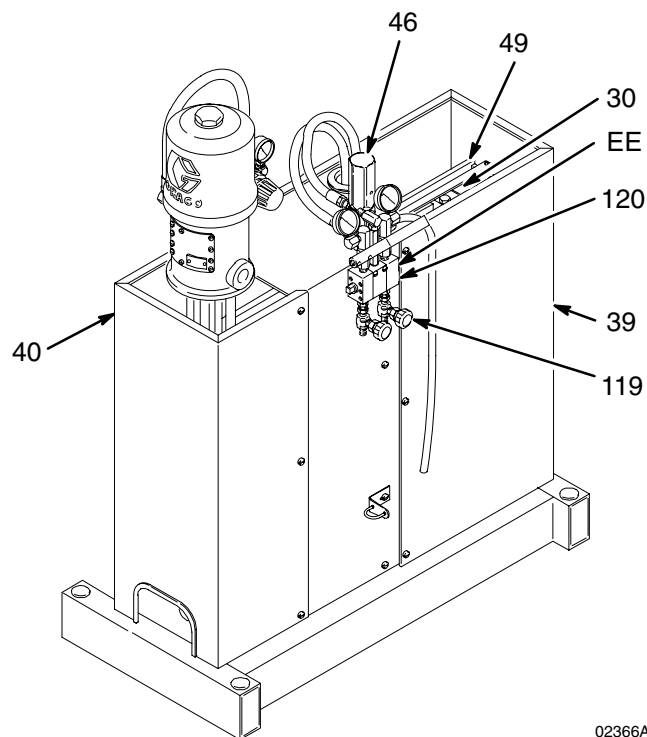

Fig. 8
3. Remove the safety panel (39). See Fig. 8 on page 17.
4. Loosen the four capscrews (16) holding the secondary pump(s) in place.
5. Open the fluid outlet and lift or push the lever arm (49) to the horizontal position.
6. Move the secondary pump so that the line on the index clamp (30) is at the desired setting on the scale (26).
7. With the secondary pump as vertical as possible, tighten the four screws (16) to 50 ft-lb (78 N.m).
8. Replace the safety panel (39).